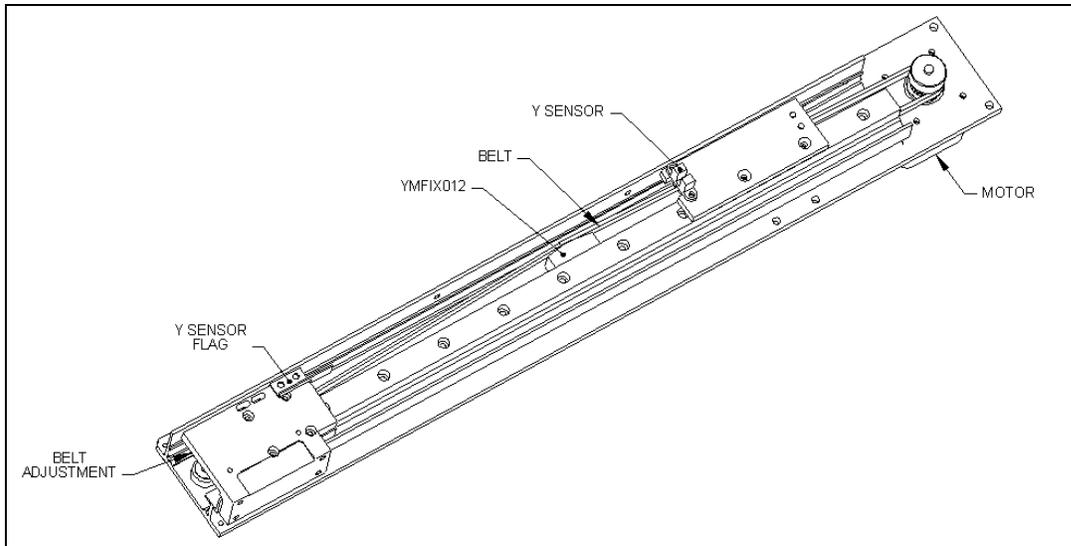

Figure 7-47 Tightening the Y-Drive Belt
- 4 Position Y belt tension Jig *DSXFIX012* as shown in Figure 7-47 between slide rail mounting screws 5 and 6 (from the motor end), with the Z carriage fully away from the motor. Tighten the belt adjustment screw until the belt pushes the plunger flush to face of the body of the jig. Tighten the adjustable block screws and remove the jig. Individually remove and re-install each screw in the adjustable block (including the long adjustment screw) by applying Loctite 222 to each screw and then tightening. Ensure that the Y sensor flag passes through the middle of the sensor.
The Y Optointerrupter is mounted as shown in Figure 7-47. To remove the Y sensor, remove the two screws. When you replace the sensor, make certain that the Y-Flag travels through the center of the sensor.